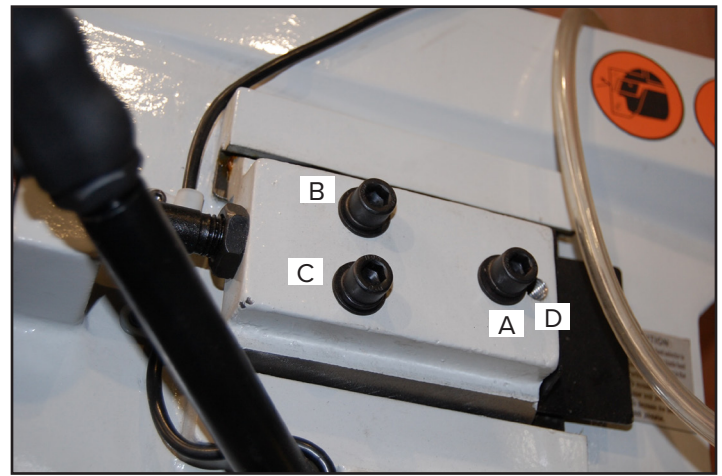

Figure 10: Adjusting the Upper Wheel.
- Finally, when the wheel is adjusted tighten the hex screws A,B, and C see figure 10.